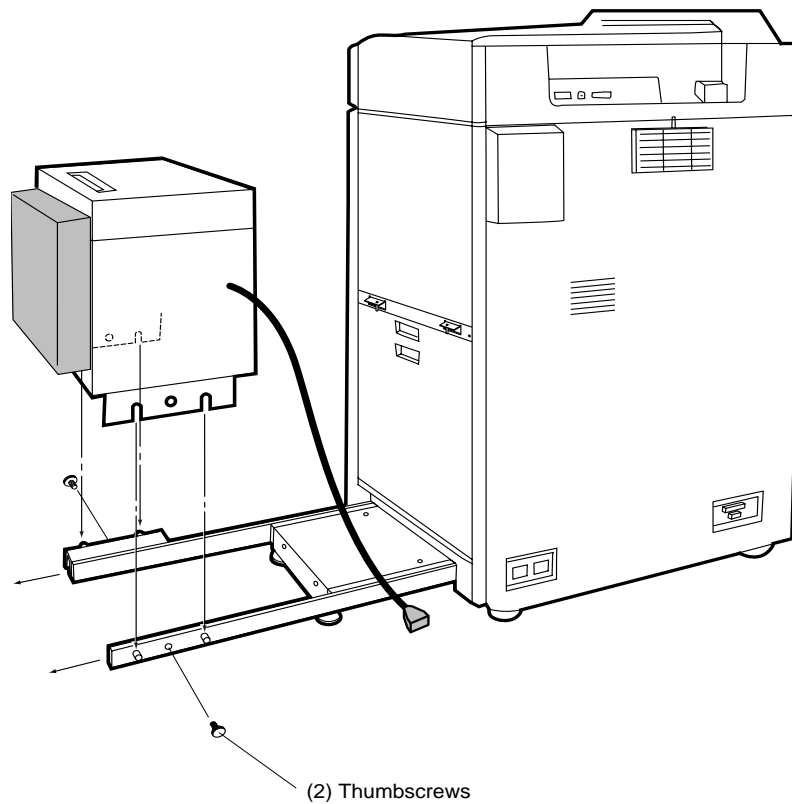

Figure 4-8 Attaching the HCI to the mounting bracket
3. Secure the HCI to the mounting bracket (use two thumbscrews), as shown in Figure 4-8.